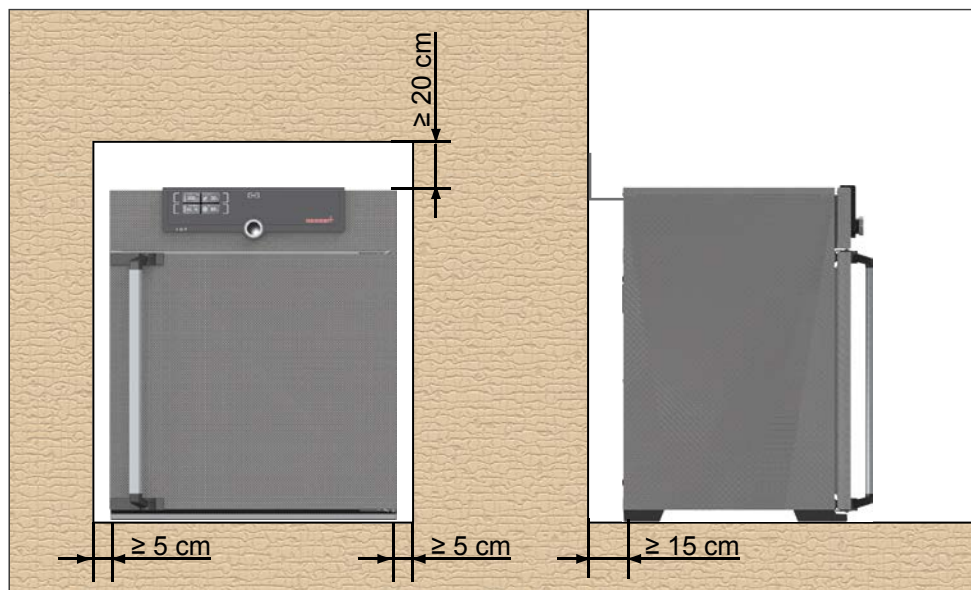

Fig. 8 Minimum clearance from walls and ceiling
The distance between the wall and the rear of the appliance must be at least 15 cm. The clearance from the ceiling must not be less than 20 cm and the side clearance from walls or nearby appliances must not be less than 5 cm (Fig. 8). Sufficient air circulation in the vicinity of the appliance must be guaranteed at all times.
2. Bend the tilt protection upwards by 90° in the desired distance to the wall (consider the minimum distance to the wall, see Fig. 8).